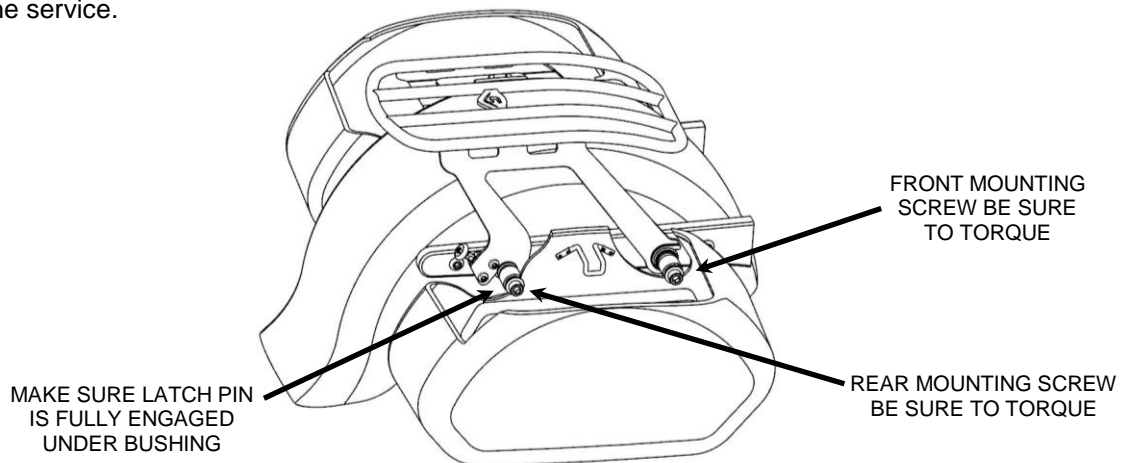

FIGURE 4
5. Then slowly rotate the rack downward so the rear portions of the side plates slip over the rear mounting bushings. See **FIGURE 4**.
6. Pull backward on both detachable latch knobs and then push downward on the rack to allow the rack to sit completely on the rear mounting bushings. Then release the detachable latch knob to fully engage the latch pin underneath the mounting kit bushing. See **Figure 4**.
8. Always check to make sure both detachable latch pins are fully engaged on the bottom of the mounting kit bushing. Failure to fully engage the detachable latch pin could cause the rack to come loose while riding. See **Figure 4**.